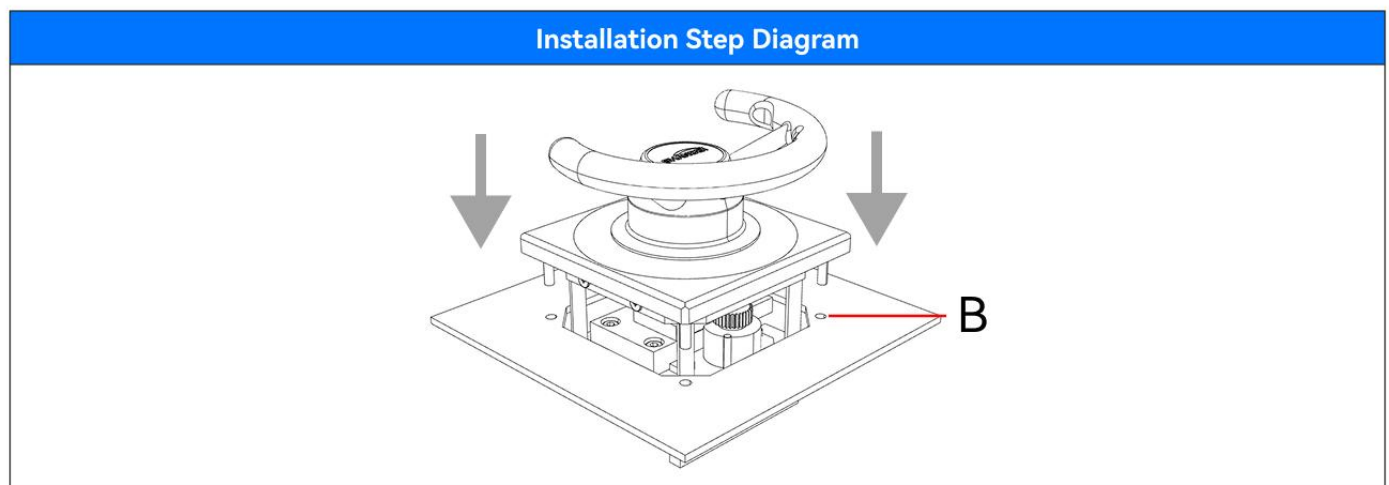

Figure 3.2
2. As shown in Figure 3.2, place the control lever vertically within the opening of the mounting plate, and align the screws with the screw holes B. If there is a protruding part, you can rotate or tilt the control lever to fit it in.